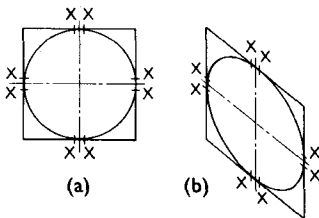

Fig. 3.133
**Isometric representation of circles.** Circles and parts of circles are usually drawn free-hand in isometric drawings. Most people find this difficult. Fig. 3.133 will give the clue necessary to overcome this difficulty. Fig. 3.133 (a) shows a true circle inscribed in a square. At the points marked X the circumference of the circle and the sides of the square appear to touch. This must be the same in the pictorial view shown in Fig. 3.133 (b). Fig.